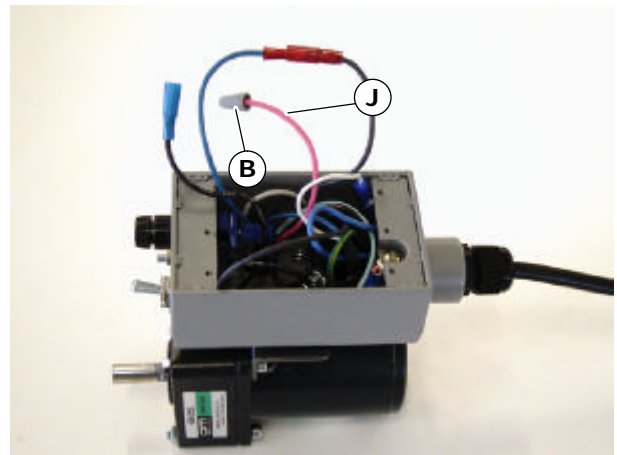

Figure 11
8. Turn wire nut (B of Figure 11) clockwise onto end of red wire (J).